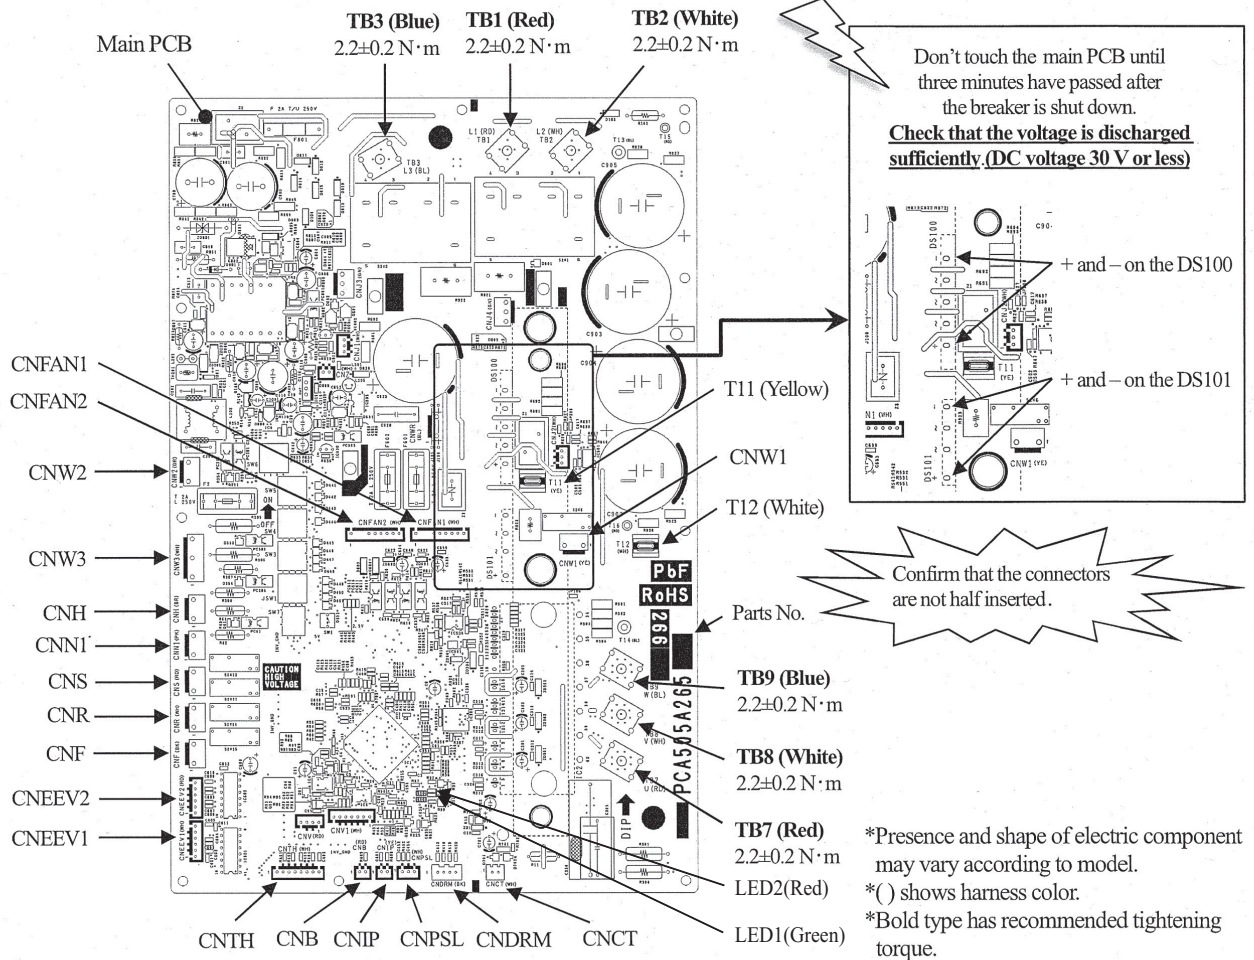

Fig.2 Parts arrangement view of main PCB and voltage measurement points
In the situation that harnesses are connected to main PCB, **be sure to measure voltage (DC)** on main PCB, and **check that the voltage is discharged sufficiently (DC voltage 30 V or less)**. (Refer to Fig.2)
- c) Disconnect the connectors, faston terminals and round terminals from the main PCB as shown in Fig.2.
- b) After the new Main PCB is installed on the control, reconnect the connectors, faston terminals, and round terminals to the main PCB as before. (Refer to Fig.2.)